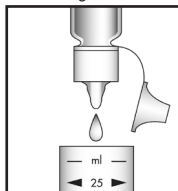

Figure 2
2. Add 4 drops of S-1404 Stabilizer Solution (fig. 2).
3. Add 4 drops of S-1405 Catalyzer Solution (green) (fig. 2).